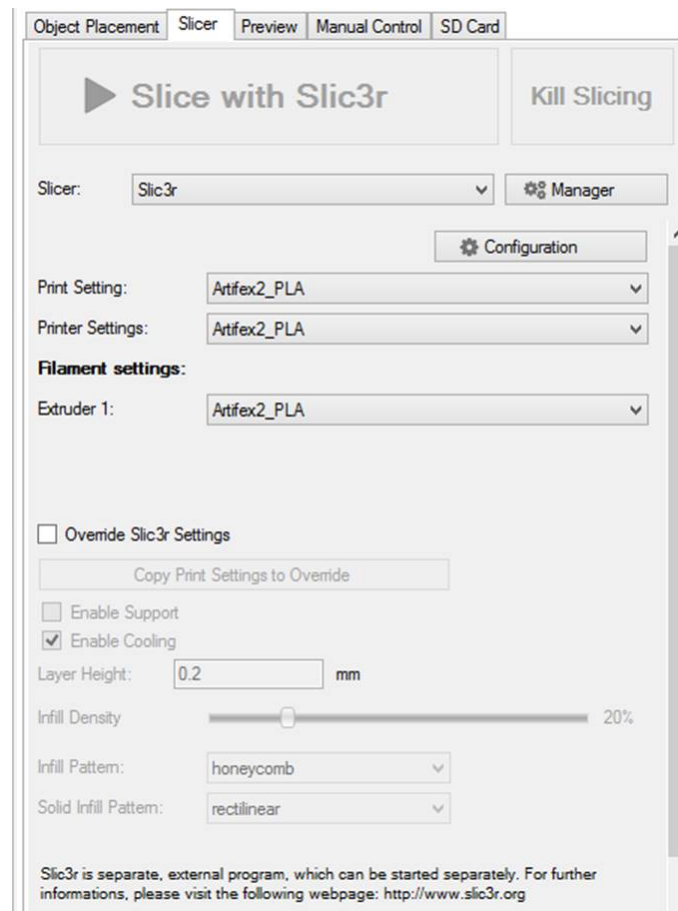

Figure 3.2: Slicer page on the Repetier-Host interface with Slic3r
- Click the “Slicer” page next to the “Object Placement” page on the right side of Repetier-Host interface. Select “Slic3r” in the Slicer option (Figure 3.2).
- On the Slicer page of Repetier-Host interface, select “Artifex2\_PLA” for Print Settings, Printer Settings, and Filament Settings (Extruder 1) (Figure 3.2).